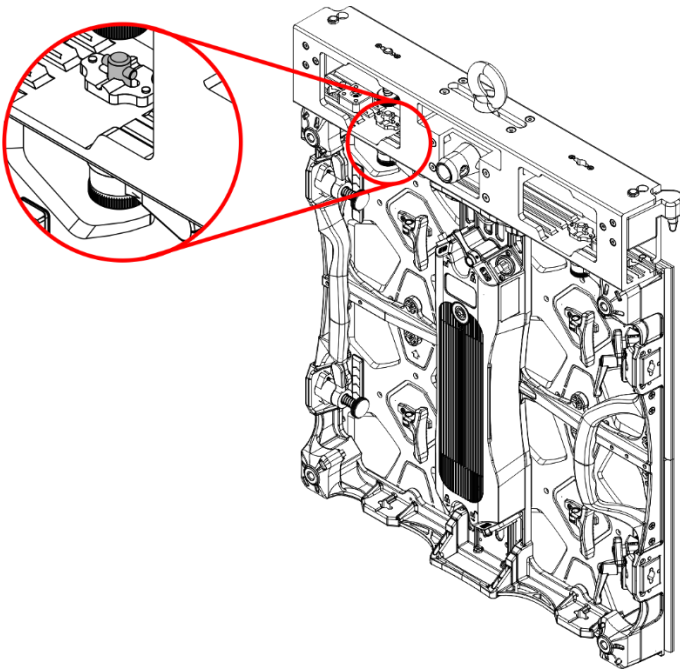

Fig. 34
- 04) Make sure that the pins are firmly locked in the **fast-lock opening (06)** on the bottom of the device, as shown in Fig. 34.